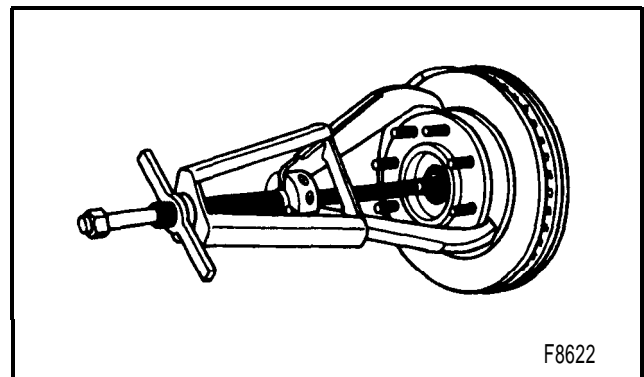

Figure 2 - Removing the Drive Axle
- Washer (26). Replace if damaged.
- Install washer (26) and fill plug (25) and tighten to 33 N•m (24 ft. lbs.).
- Use a Posilock Puller Model 110 or equivalent to push the drive axle through the hub (figure 2).